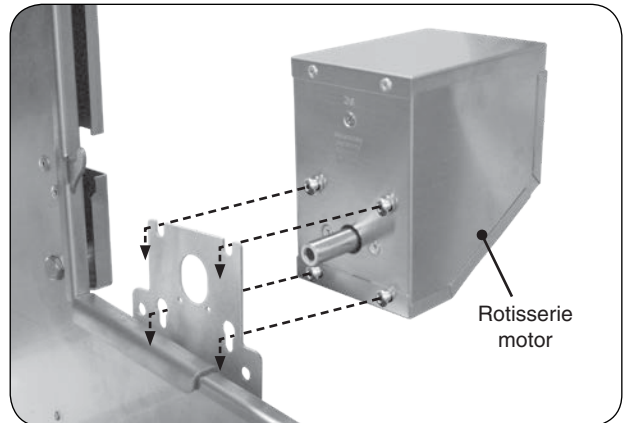

Fig. 31-2 Install rotisserie motor
2. Slide the rotisserie motor fully onto the motor bracket located on the right side of the grill (see Fig. 31-2) and connect it to a power source (do not turn on).